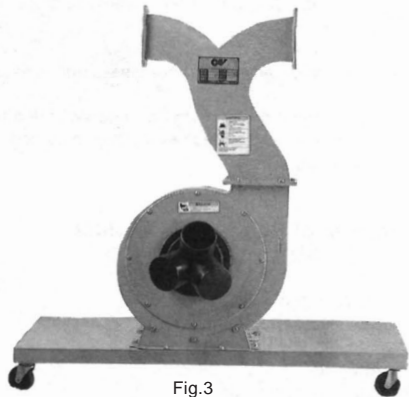

Fig.3
- 3 Attach connector tube to fan housing using hex head bolts, washers, and nuts. Be sure connector tube faces the proper direction, as shown in Figure 3.